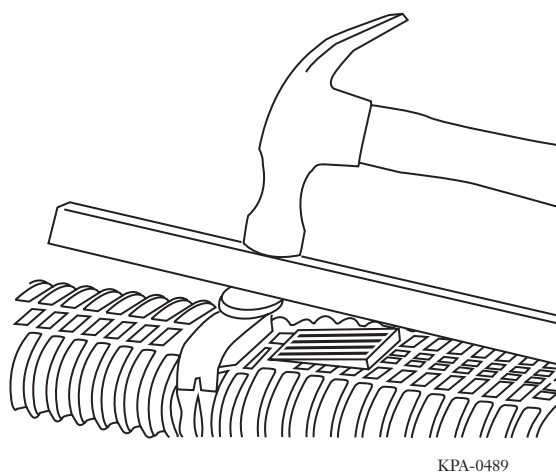

Figure 47 — Hammer Locks
**Step 5** Tap lightly in a downward direction to set the clamping bar locks (Figure 47).